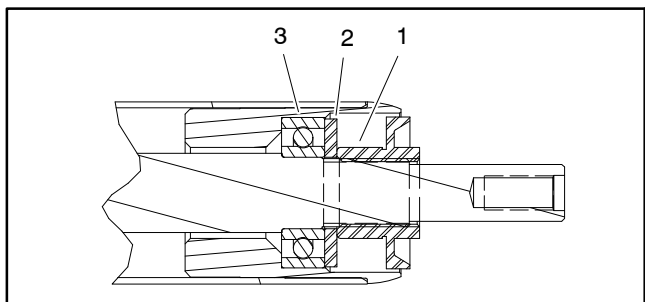

Figure 38
2. Position a new bearing, black assembly washer (see Special Tools) and original lock nut onto each end of the roller shaft (Fig. 38).